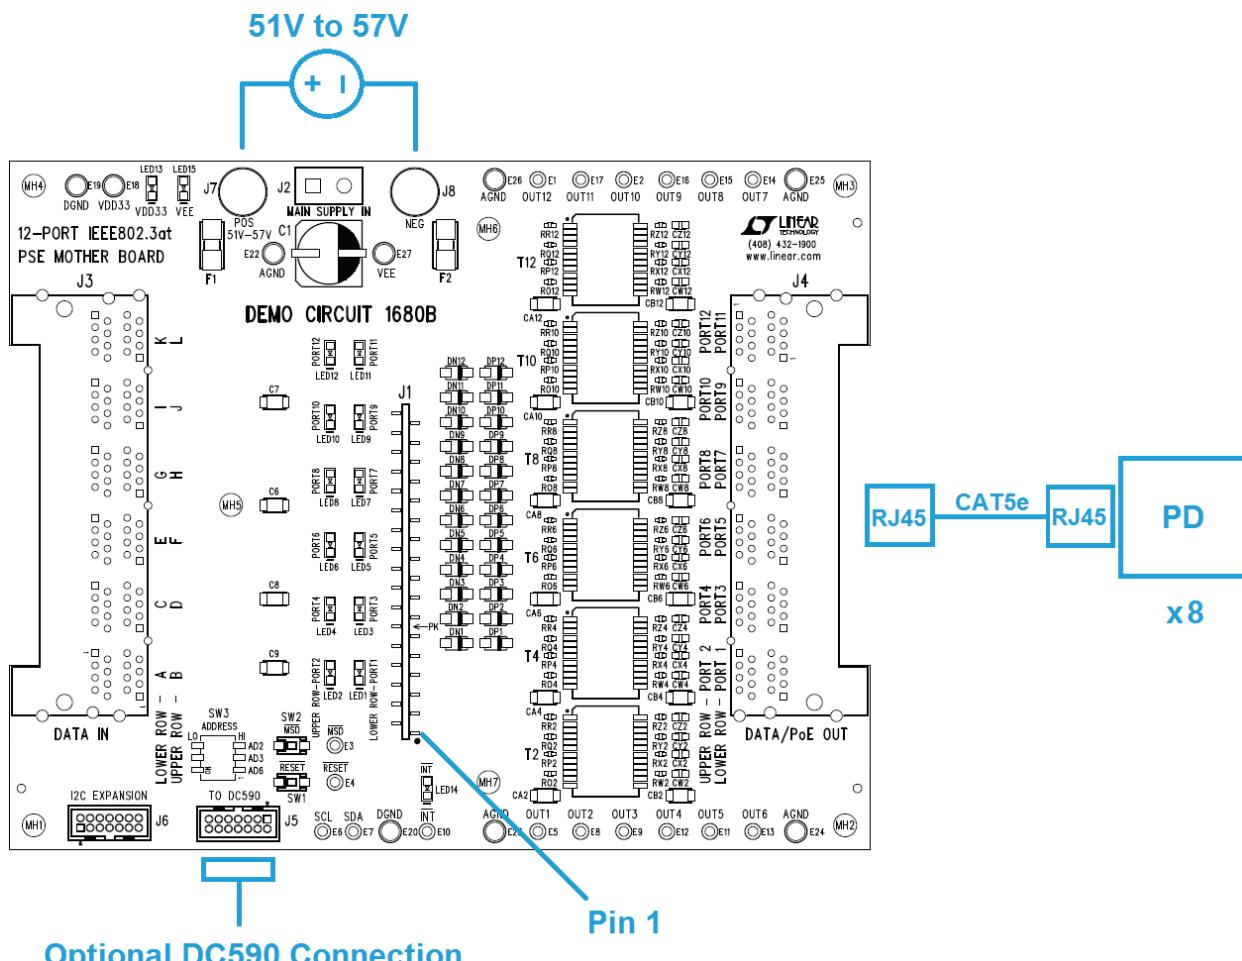
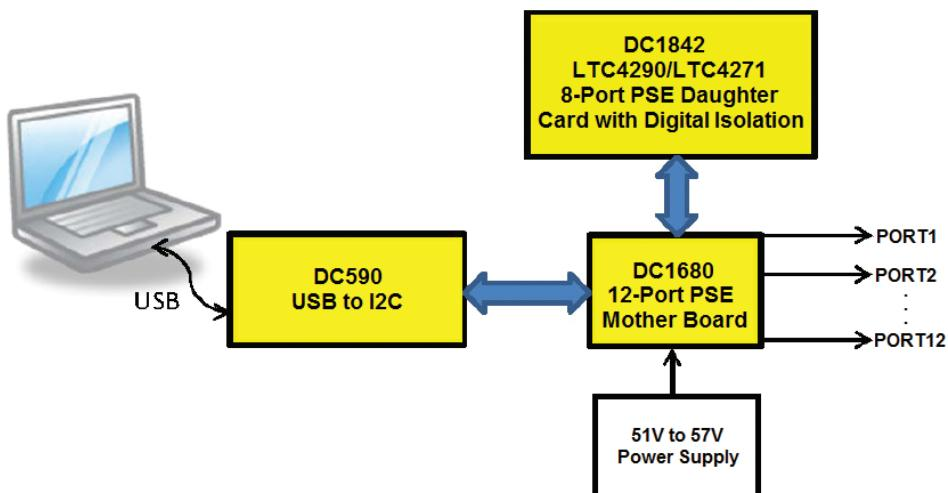

Figure 3. DC1843B Basic Setup
Figure 4. DC1843 System Setup with the DC590, DC1680, DC1842 and 51V to 57V Power Supply
4. On the DC1680B, connect a supply with the positive rail to POS and negative rail to NEG (Figure 3). Use a power supply capable of sourcing the maximum load expected ( $8 \text{ ports} \times 850\text{mA} \geq 6.8\text{A}$ ). Ramp the supply up to 51V to 57V.
5. Connect up to 8 PDs to ports 1-8 at the DC1680B, J4 (Figure 3).
6. The DC590 is optionally connected to the DC1680B connector J5 with a 14-pin ribbon cable (Figure 3). A GUI for the LTC4290B/LTC4271 is brought up by QuikEval for I2C interfacing from a PC (Figure 4).
Connect a power supply for VEE with the positive rail to POS and negative rail to NEG as shown in Figure 3 of the Quick Start Procedure. Set the voltage within the range in Table 1 depending on whether the application is a Type 1 or Type 2. Choose a power supply rating and set the current limit high enough to provide power for the maximum number of PDs connected and to meet each PD power requirements.
PDs are connected using an Ethernet cable to any of the 8 ports at the 2×6, RJ45 connector J4 on the DC1680B (Figure 3). Test points for port outputs OUT1 through OUT8 are provided.